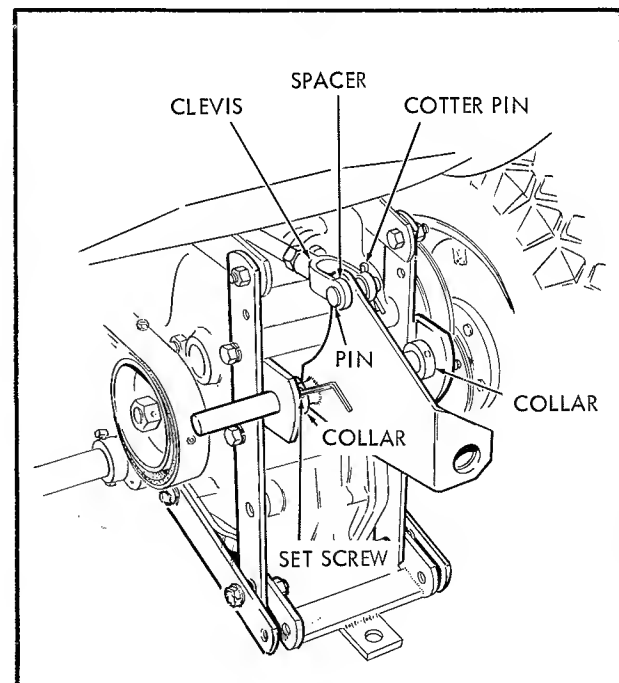

Fig. 3
3. Insert right end of lift assembly into hole in right hitch member and position lift assembly so that collar is flush against right hitch member. Position collar on left side of lift assembly so it is flush against left hitch member; tighten socket head set screw with allen-wrench. See figure 3.
4. Connect lift assembly to clevis by means of pin, spacer, and cotter pin. Keep spacer on left side of lift assembly. See figure 3.